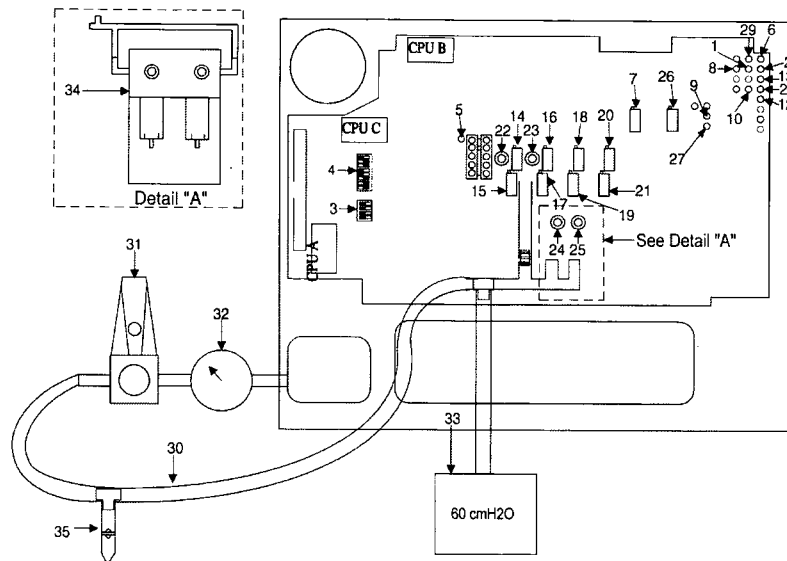

Figure 5.7 Main PCB layout
- 11.2 Attach a digital multimeter (DMM), set to volts dc between TP402 (positive lead) and TPI01 (ground lead) on the Main PCB (See Test Figure 5.7).
See Test Figure 5.7 for the Main board layout of the Test Points (TP), Potentiometer (Pot), and Pressure Transducer (PT) location. There are two types of Main boards, P/N 50920 (VIP Sterling), and P/N 50880 (VIP Gold).
Table 5.2 Figure 5.7 Identification Numbering